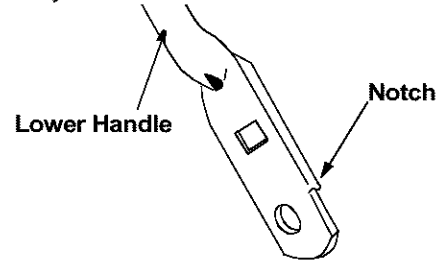

Figure 8
- Turn the lower handle around so the notch on the bottom of the lower handle is facing forward as shown in Figure 8.